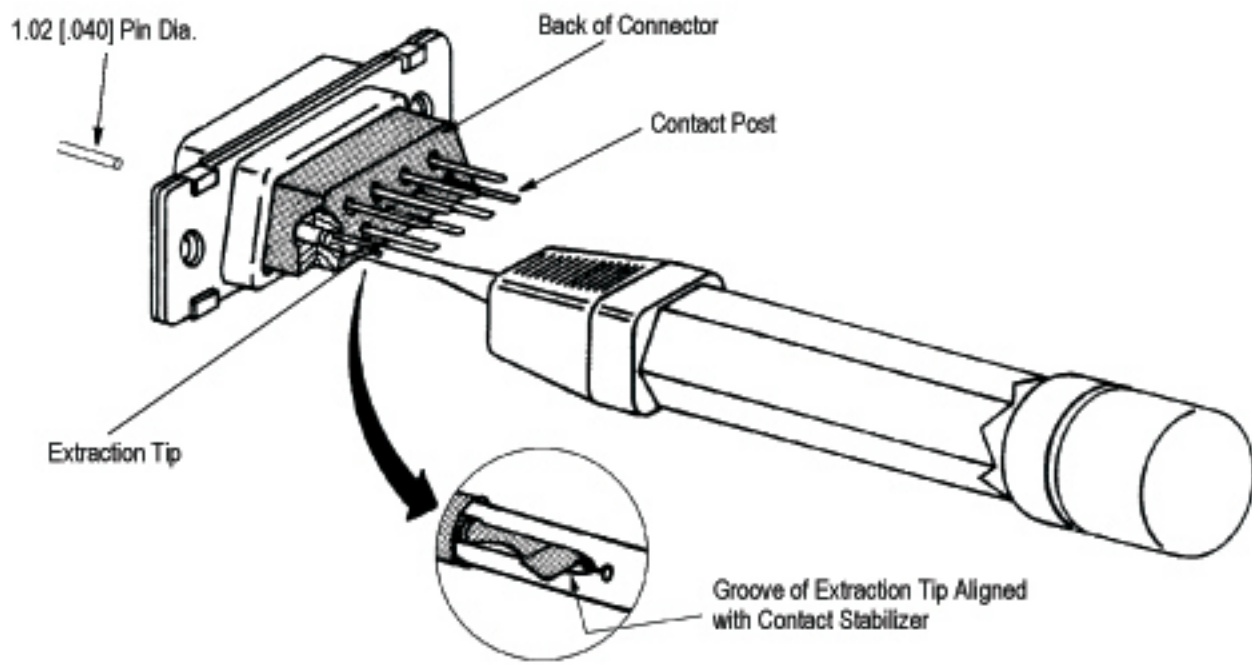

Figure 6
#### 4.4. Extracting A Posted Contact (Figure 6)
2. Align the groove of the extraction tip with the contact stabilizer as shown in Figure 6.